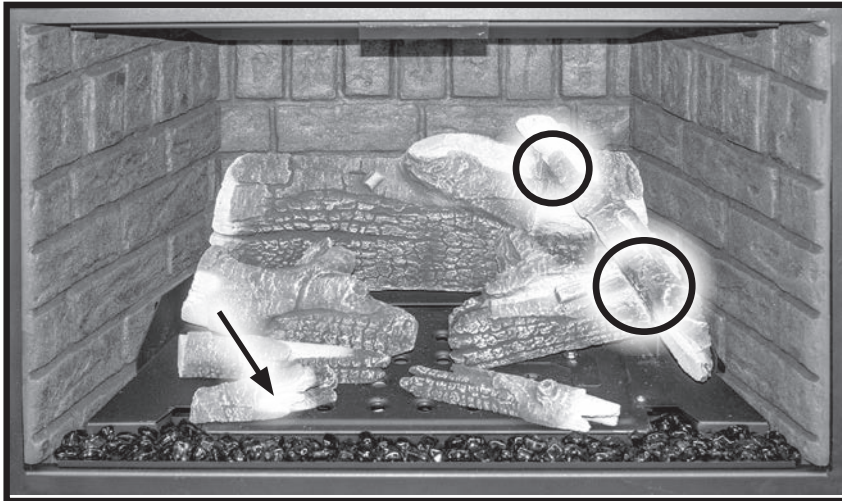

Figure 47. Final Ember Log & First Right Top Log.
5. Install the final ember log, as shown in Figure 47, by locating the drilled holes on the burner pins. Then install the first right top log by sitting the depression on the bottom side onto the half-round on top of the back log. The opposite end of the log sits into the notch on top of the right ember log.